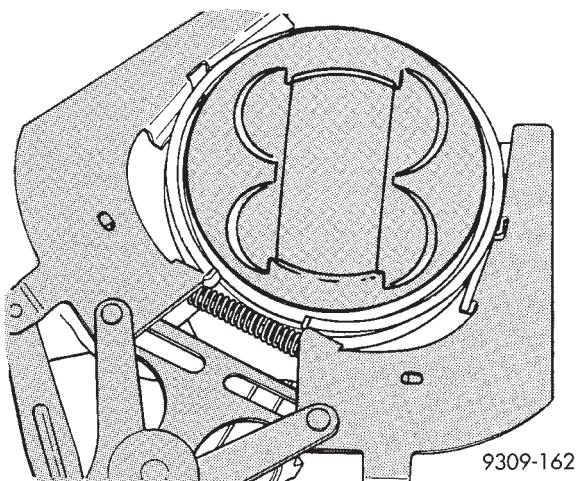

Fig. 92 Upper and Intermediate Rings—Installation
(8) Install upper side rail first and then the lower side rail.
(9) Install No. 2 piston ring and then No. 1 piston ring (Fig. 92).